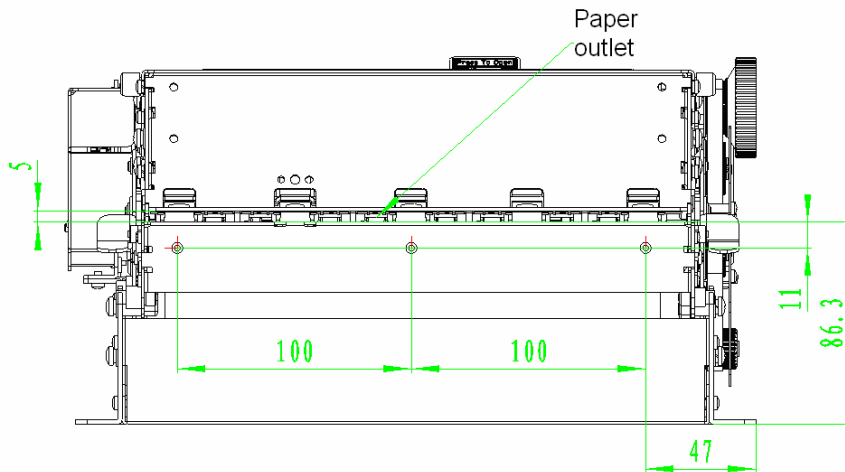

Fig.4.6.9 Fixing holes for external outlet
- The bundler has the fixing holders for external paper outlet as shown in Fig. 4.6.9.